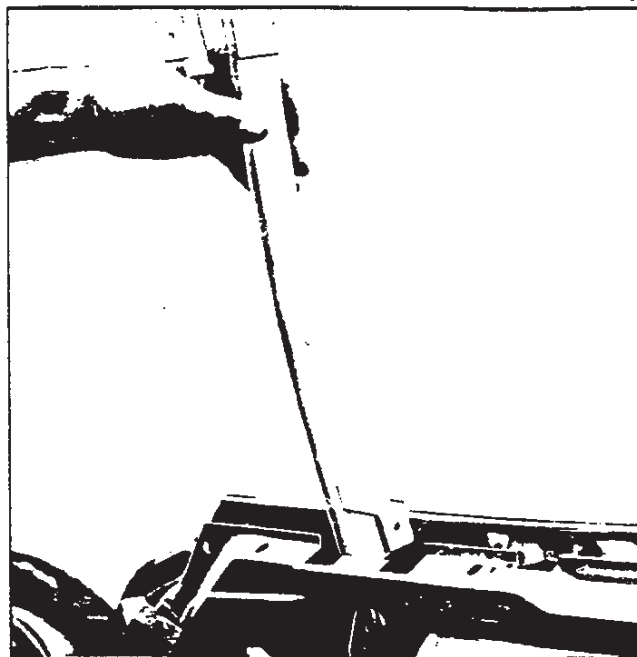

Fig. 31—Removing Front Glass Channel
3. Remove retaining screw at lower end of channel and two (2) screws retaining channel to top surface of door inner panel.
4. Remove two (2) screws retaining stationary horizontal guide channel.
7. Carefully lift channel through upper slot as shown in Figure 31 making certain to clear opening.